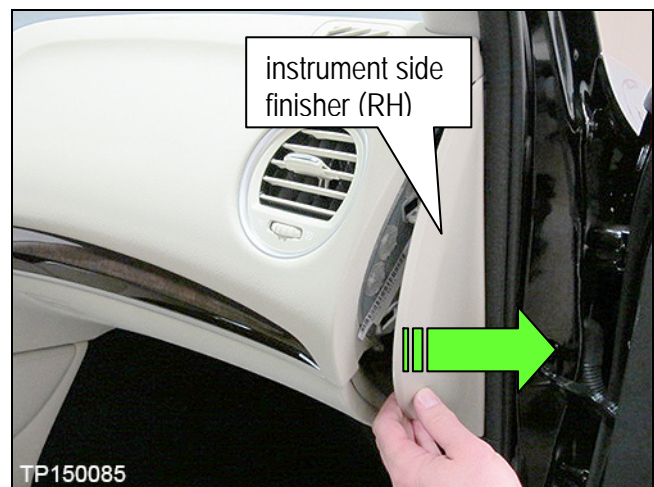

Figure 1
4. Remove the instrument side finisher (RH) using a suitable plastic trim tool (Figure 1).